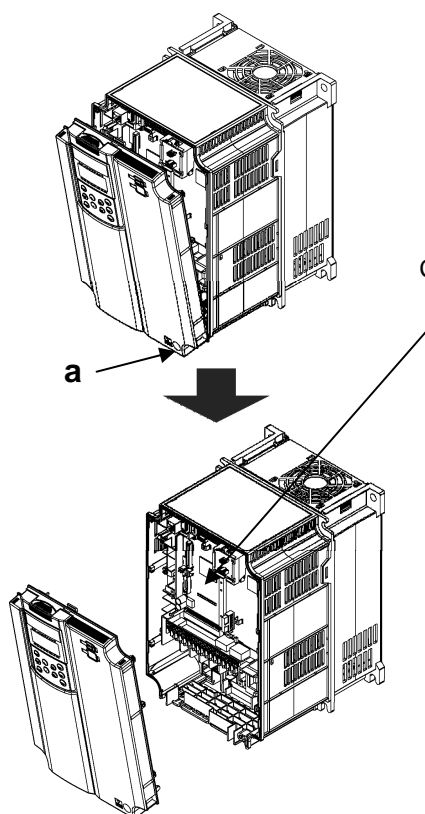

Figure 2.1-1 Removing the Front Cover
As shown in Figure 2.1-1, loosen the one mounting screw on the front cover at location (a) and grip the top of the cover to remove it.
- (1) Attach the three included spacers (d) to the three option mounting fixtures (a) through (c) on the control printed circuit board.
- (2) Install the communications option card so that connector CN1 (on the back of the communications option card) connects to connector B port (CN2) on the control printed circuit board.
- (3) Tighten the three included screws (e) to secure the communications option card in place.
- (4) Referring to Figures 2.1-1 and 2.1-2, "Removing the Front Cover," reverse the procedure to reattach the front cover.
- (1) Install the digital 16-bit option, connecting it to the D port (CN10) connector on the control printed circuit board.
- (2) Attach the two screws (a) included with the digital 16-bit option to mounting holes ① and ② on the digital 16-bit option, and attach four spacers (b) to holes ③ through ⑥.
- (3) Attach one spacer (d) included with the communications option card to the option mounting fixture (c) on the control printed circuit board.
- (4) Install the communications option card so that connector CN1 (on the back of the communications option card) connects to B port (CN2) on the control printed circuit board.
- (5) Tighten the three included screws (e) to secure the communications option card in place.
- (6) Referring to Figures 2.1-1 and 2.1-2, "Removing the Front Cover," reverse the procedure to reattach the front cover.